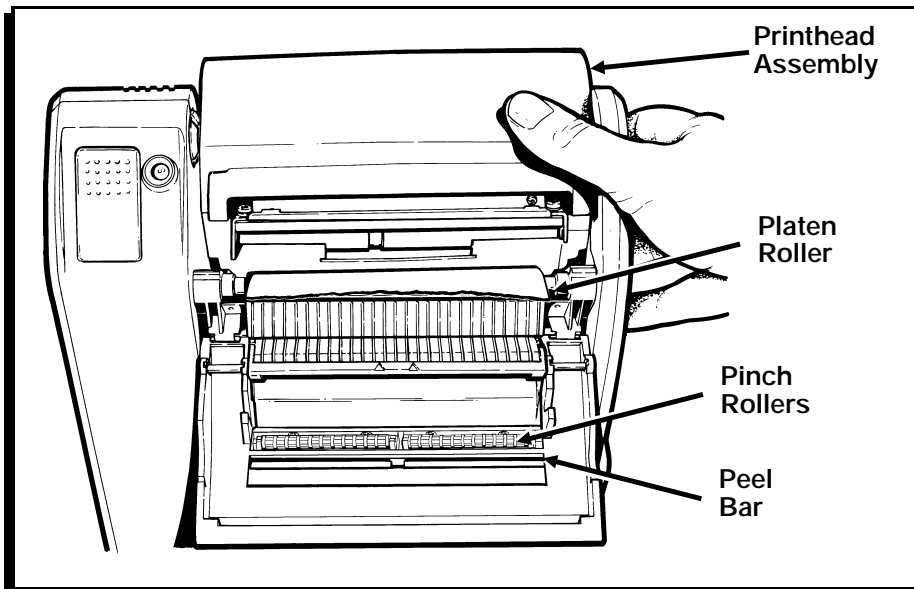

Figure 23
3. Tip the printhead assembly up and over the platen roller as shown. (Figure 23.)